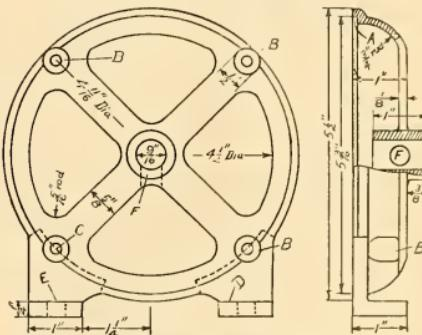
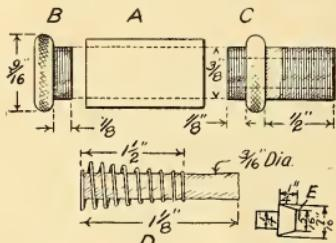

Fig. 3. Finished Bearing Housing
Fig. 4. Grease Cup and Core Print
Fig. 3 dimensions the finished bearing housing, of which two are required. Both housings are alike, so only one pattern need be made. The material for the patterns is $\frac{1}{4}$ inch white pine. Mount a wooden block on the faceplate of the lathe and on this glue six pieces of white pine, first gluing a piece of
is dimensioned in Fig. 4 at (E). This core print is glued in a $\frac{1}{4}$ inch hole drilled in the bearing hubs. One print is required on each side. The base lugs (D), Fig. 3, are cut from some white pine, and glued into a slot cut in the pattern as shown by the dotted line, Fig. 3. All corners should be rounded out with fillet or beeswax. The pattern should then be sandpapered well using No. 0 sandpaper and receive a coat of shellac. This will raise the grain of the wood. Sandpaper again, and give two coats of shellac. This completes the pattern for the housing. Two castings will be required.
When the castings come from the foundry, clean them well with a grinding wheel, emery cloth, and a file. Chuck the housing casting in the lathe and bore the hub out to $3\frac{1}{8}$ inch for the bushing. Next mount the housing on a mandrel, bracing it well and face both sides of the hub and the bosses. The recess (A) on the inside is turned $5\frac{1}{8}$ inches in diameter and $\frac{1}{8}$ inch deep. The recess should be a tight fit over the outside of the stator core. Remove the housing from the lathe and drill the holes (E) in the feet and (B), Fig. 3, in the bosses. The holes in the bosses are drilled $1\frac{1}{4}$ inch to give ample allow-
The bearings are phosphor bronze bushings. These are one inch long, bored out to $\frac{5}{16}$ inch in diameter, and then mounted on a mandrel and turned down to $\frac{9}{16}$ inch in diameter. Drive the bushings in place, and drill and tap the $\frac{3}{8}$ inch hole (F), Fig. 3, for the grease cup. This
The lubrication is provided by means of a wick hanging in a grease cup. The grease cup is illustrated and dimensioned in Fig. 4. The body (A) of the grease cup is made of a brass tube threaded $\frac{3}{8}$ inch, for a short distance on each end, internally. The two caps (B) and (C) are also made of brass, and are threaded to screw into the part (A). The cap (C) has a $\frac{3}{16}$ inch hole drilled through it for the wick. The wick has a short piece of brass spring wire coiled around and bound to it, as at (D), to force the wick up against the rotor shaft. Soft grease should be used in this cup.